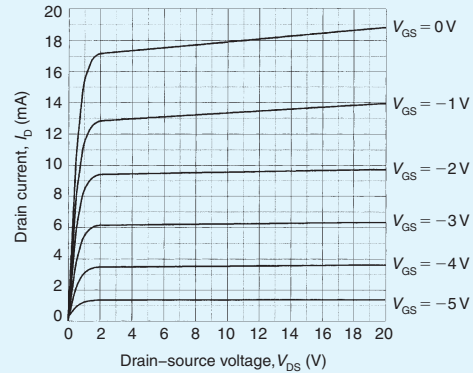

Figure 12.28
- The output characteristics of a JFET are shown in Fig. 12.28. If this device is used in an amplifier circuit operating from an 18 V supply with a gate-source bias voltage of  $-3\ \text{V}$  and a load resistance of  $900\ \Omega$ , determine (a) the quiescent values of drain-source voltage and drain current, (b) the peak-peak